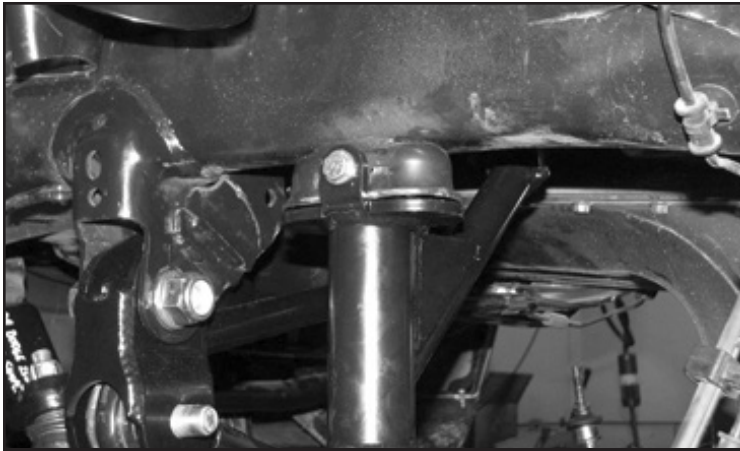

FIGURE 20 - STEP 26
26. Locate a 5/16"-18 x 2-1/2" bolt, nut and washers. Using this bolt, secure the bump stop to the factory bump stop mount and torque to 29 ft-lbs. **SEE FIGURE 20**